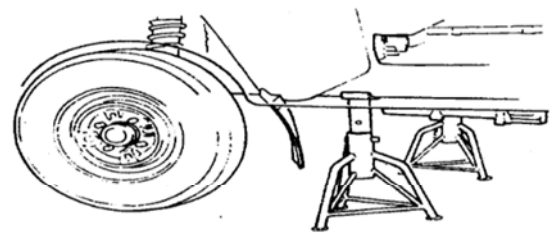

Fig. 1.1-5 Sketch of safe bench placed in front side
3. When repairing a vehicle after its front end or back end, be sure to put a safe dais under carriage to bear the body firmly, see Fig. 1.1-5, Fig. 1.1-6.